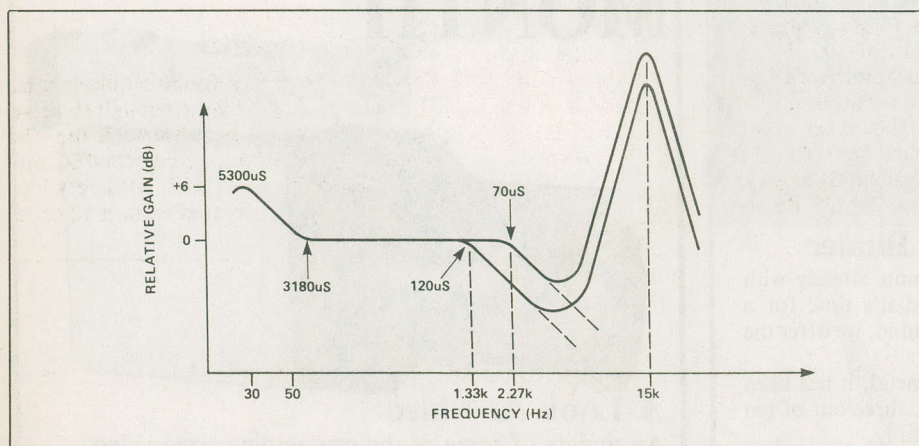

Fig. 12. Record pre-emphasis and de-emphasis for cassettes, showing additional compensation for head losses.
**11. Head losses:** We have assumed so far, that the recording and replay heads — which are often the same unit in cassette recorders — behave in a perfect manner. They don't. Mainly because of the finite gap width, their HF performance is poor. This means that some form of HF pre-emphasis has to be applied, during recording, to assist in achieving a satisfactory HF output. This recording pre-emphasis, of 15-25 dB magnitude, will be applied, as shown in Fig. 12, at the point where it is expected that the replay HF response will start to fall. This is not a good thing, since it will tend to cause HF overload, and increased distortion and intermodulation effects, but is feasible because signal amplitudes at HF are generally low.